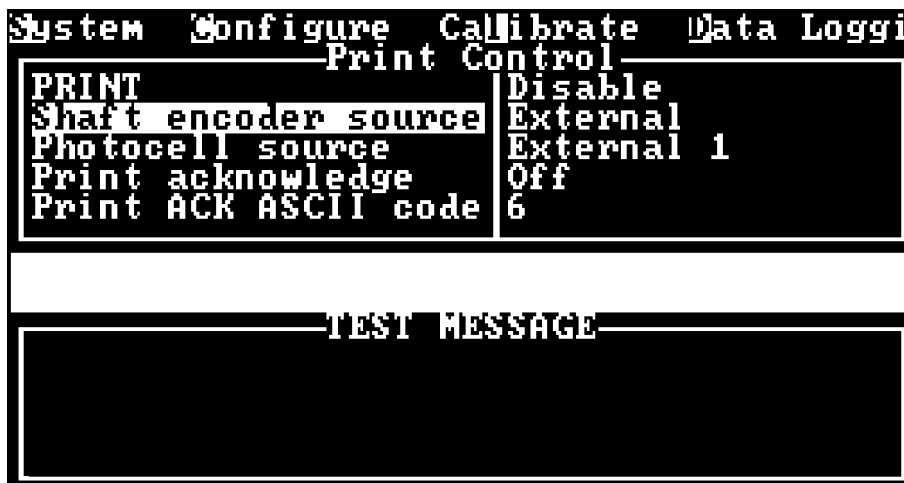

Fig 11.92 Print dialogue box
- 186** When the **S**haft Encoder Source option is selected the Print Control dialogue box (Fig 11.92) is displayed. From the dialogue box the shaft encoder source can be set to external or internal.